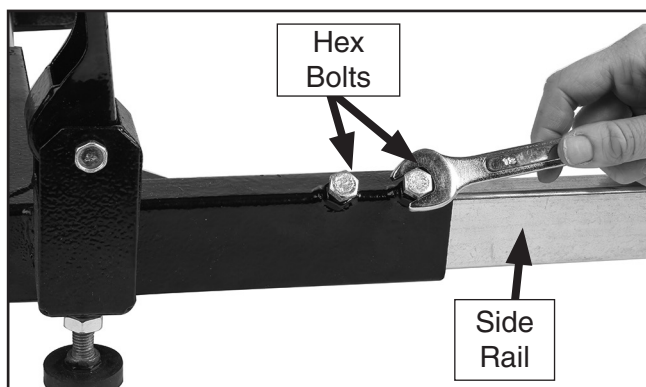

Figure 10. Securing corner bracket to rail with BOTH hex bolts.
8. Secure each end of corner brackets with (2) M8-1.25 x 16 hex bolts (see **Figure 10**).